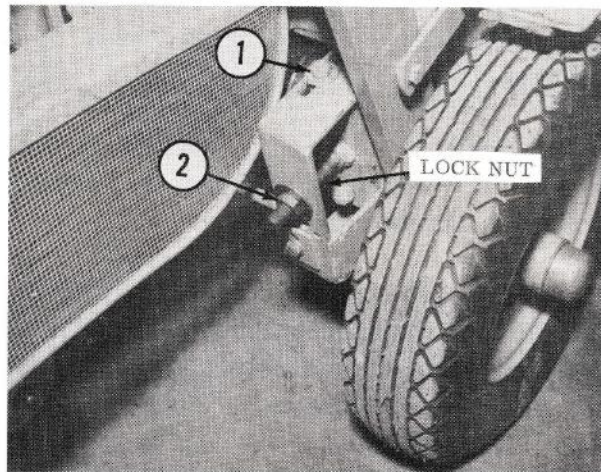

Figure 7
Belt Replacement. To replace the Jackshaft Pulley Belts: (1) Remove wire-mesh Belt Guard. (2) Pull the Blade Clutch Lever all the way back. (3) Remove the keepers from the Engine Pulley and Idler Pulley, and slip the Belts off these Pulleys. (4) Detach the Jackshaft by removing Nut 1, Figure 7, and Bolt 2. The Jackshaft must be detached at both sides. Pull the Jackshaft forward after detaching to free it. (5) Slip the Belts off the Jackshaft Pulley. (6) Put the new Belts on the Jackshaft Pulley and re-attach the Jackshaft. (7) Put the new Belts on the Engine Pulley and Idler Pulleys, re-attaching the keepers. (8) Re-attach the Belt Guard. (9) Check for proper adjustment and alignment. (10) Adjust and align all belts as required.
Inboard Spindle Belts. The Left Inboard Spindle Belts are adjusted on the left side of the Tractor (left, as the operator is seated); the Right Inboard Spindle Belts are adjusted on the right side of the Tractor. To adjust, first loosen Bolt 1, Figure 7. To increase Belt tension, back off the lock nut (this is not visible in Figure 7, but its location behind the bracket is indicated by the arrow) from the bracket and tighten Nut 2 against the Bracket. When proper tension is reached, tighten the lock nut against the bracket and tighten Bolt 1. To decrease tension, back off Nut 2 from the bracket and tighten the lock nut until proper tension is reached. Then tighten Nut 2 against the bracket and tighten the Bolt 1.